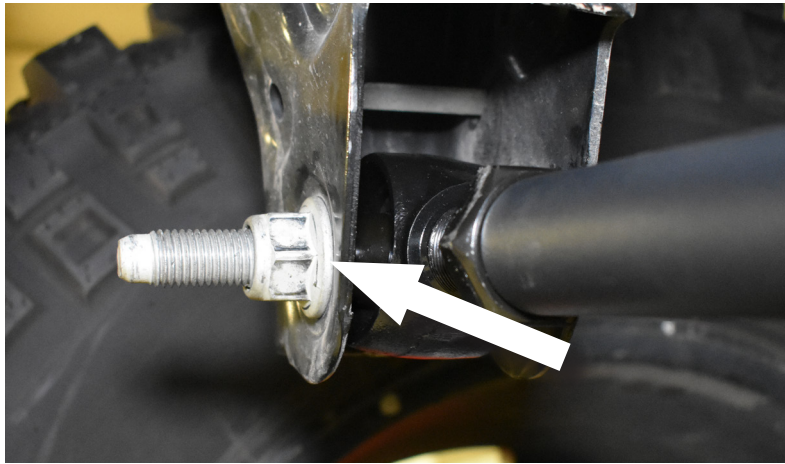

FIGURE 3
7. Install the adjustable end of you new trackbar into the frame side bracket using the factory hardware. **Fig. 3**